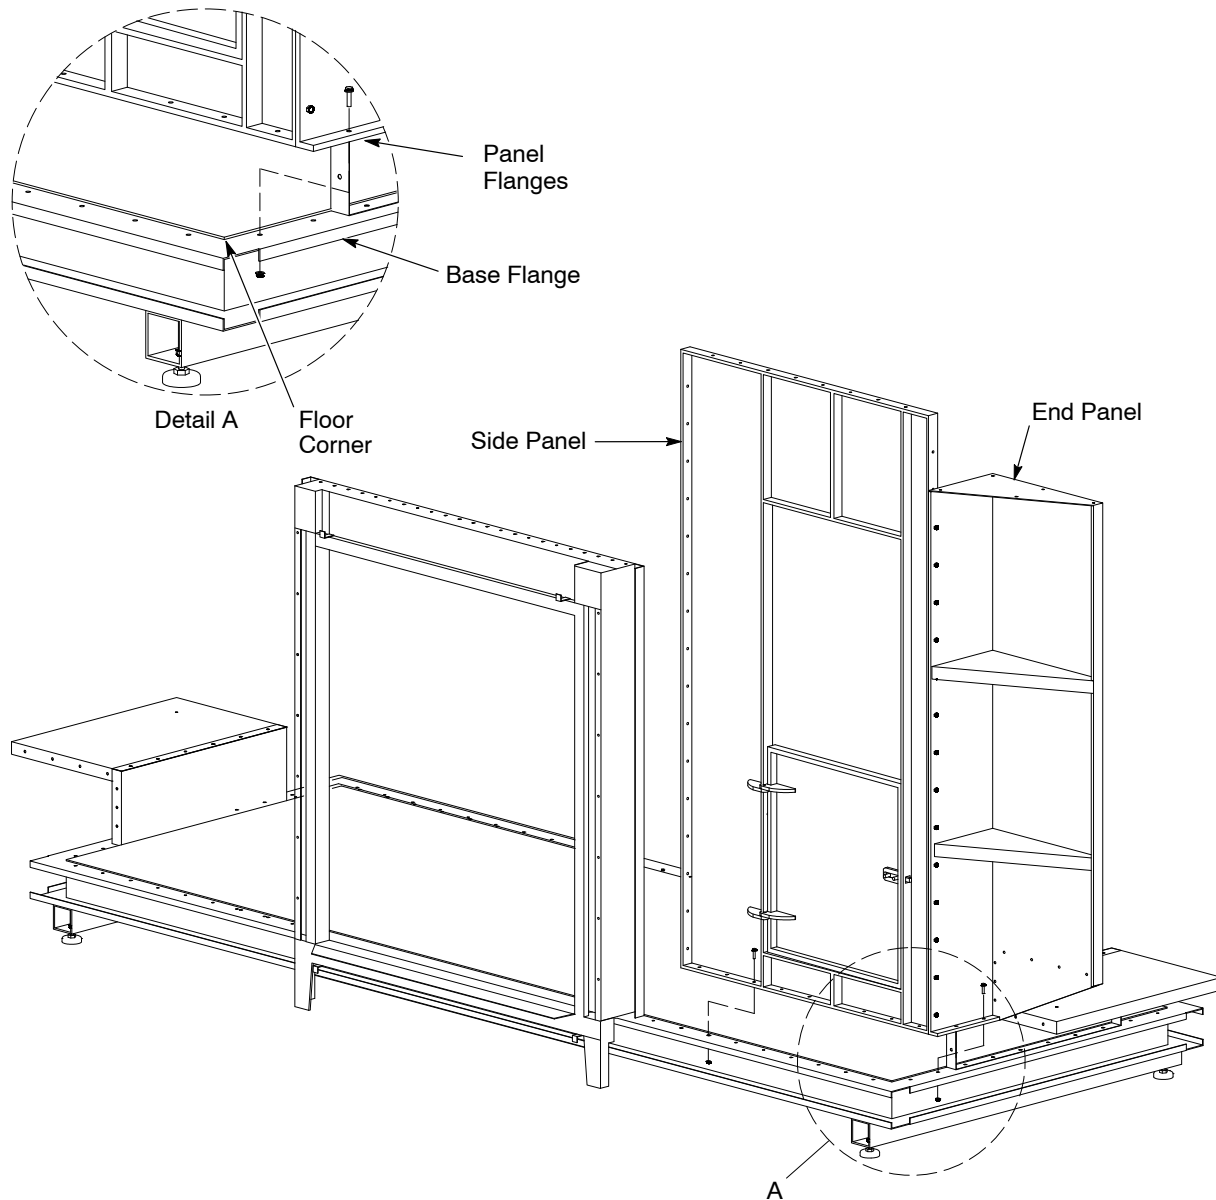

Figure 3 Corner Assembly
1. See Figure 3. Attach a side panel to an end panel with 5/16–18 hex head bolts and hex nuts to create a corner assembly.
11. Attach this corner panel assembly to the booth base as shown in Figure 3.